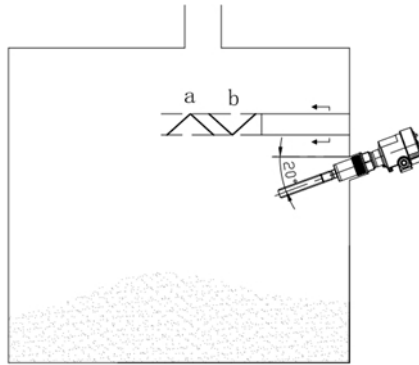

Fig.1
- For horizontal installation, mount the Fork-11 approx.20°inclined to the vessel's bottom to avoid medium buildup as shown in Fig.1. If the medium level goes up and down rapidly (the medium fills in/flow out rapidly) or the medium flows rapidly, a protection baffle is needed to ensure the Fork-11 work reliably. Fig.1 shows a protection baffle is installed above the vibrating body. The protection baffle shall be longer than the intrusion depth (horizontal) of the probe to protect the probe from impact damage. Generally the protection baffle can be a convex shape
(inverted “V” section) as in Fig.1 (a). If the medium is coarse and abrasive, the baffle in concave shape (erected “v” section) would be a better choice. The medium could stack up a bit in the concave area. It will reduce the impact to the baffle and extend the life time of the protection baffle, as shown in Fig.1 (b).